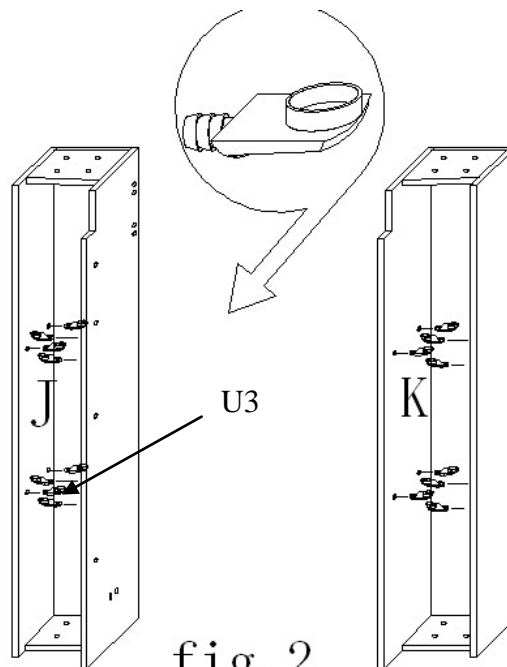

fig. 2
Step 2: Attach 16pcs Shelf Supports (U3) for the 4 Shelves to the Left and Right Cabinet (J & K). See Fig. 2 below.